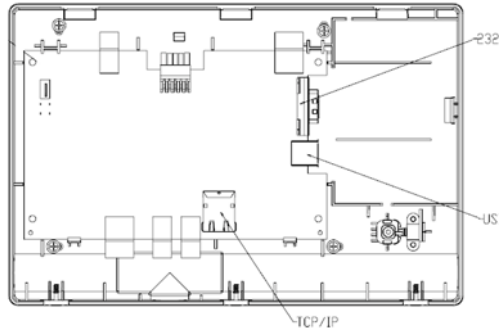

Figure 35: ME-14 Assembly
6. Mount the MU or EU board in the case and reassemble the casing as shown in Figure 35, on page 45.